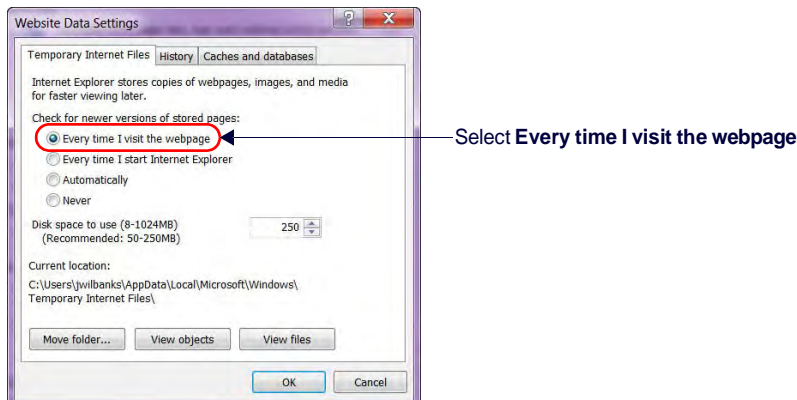

FIG. 144 Website Data Settings dialog
2. On the General tab under Browsing History, click **Settings**. The *Website Data Settings* dialog opens. Under "Check for new versions of stored pages," select **"Every time I visit the webpage"** (FIG. 144):